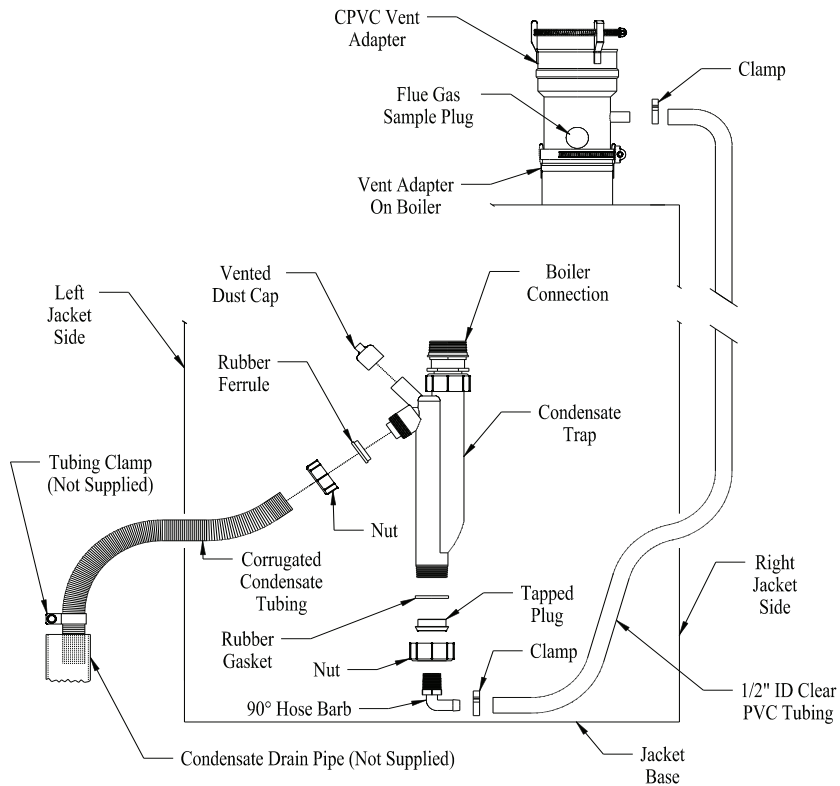

FIGURE 1.24: CONDENSATE PIPING ARRANGEMENT FOR BWC150, 225
- k. Remove the plug and black gasket ring from the bottom of the condensate trap located under the boiler (Figure 1.24)
- l. Replace the original gray trap plug with the white tapped plug. Screw the 90 degree hose barb provided into this white plug (Figure 1.24).
- m. Attach the other end of the 1/2" ID tubing to the 90 degree hose barb and secure with the remaining hose clamp (Figure 1.24).